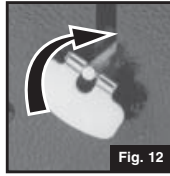

Fig. 12
- Close AUXILIARY VALVE (OR VALVES). Turn LIGHTING LEVER to UP position. (Fig. 12 & 13)